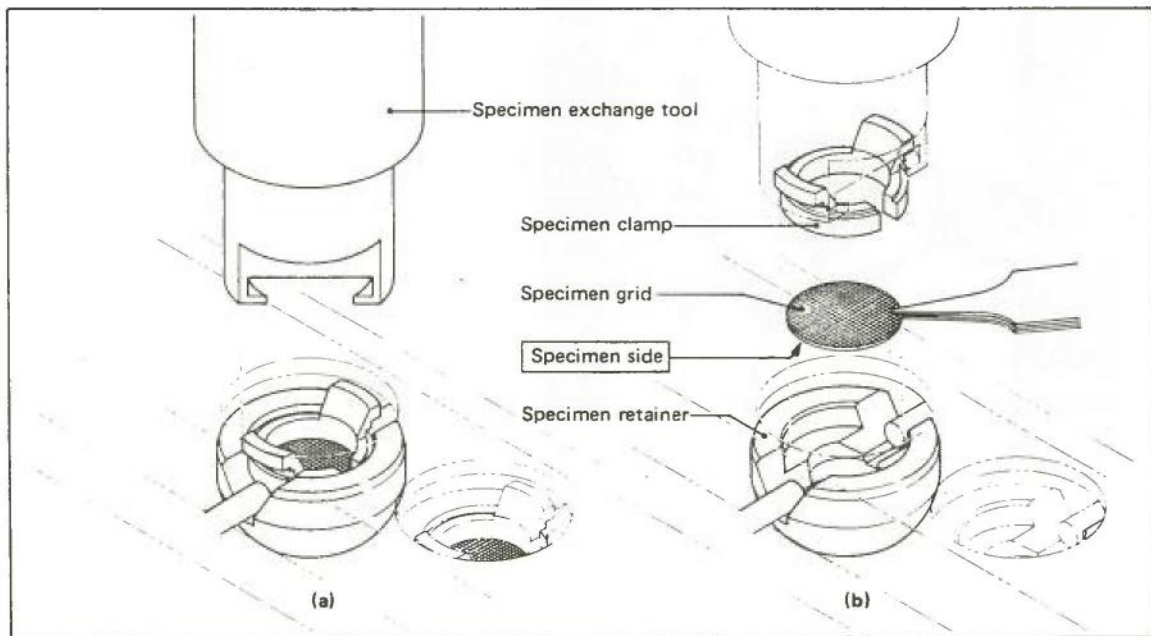

Fig. 4.5 Specimen exchange
4. Remove the used specimen from the specimen holder as follows (Fig. 4.5):